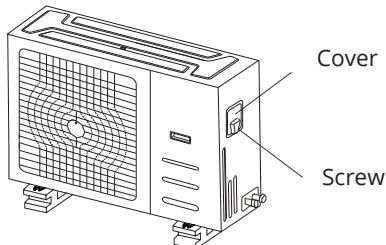

Fig. 8.1
2. Remove the electric cover of the outdoor unit. If there is no cover on the outdoor unit, disassemble the bolts from the maintenance board and remove the protection board. (See Fig. 8.1,8.2)